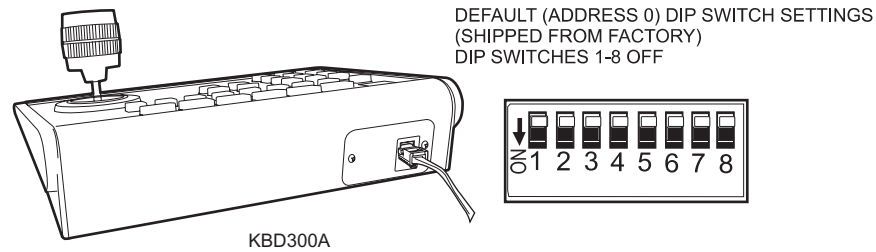

Figure 12. Data Cable Plugged into Local Keyboard
- Set the keyboard DIP switches for the desired address for the local keyboard (refer to Figure 12 and Table D).